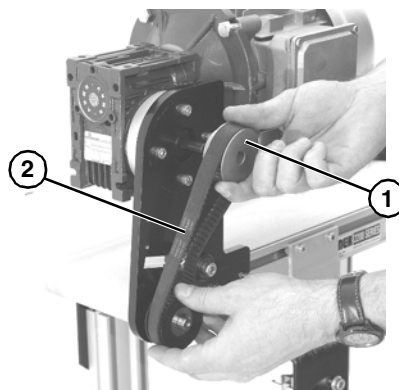

Figure 27
If drive pulley (**Figure 27, item 1**) is replaced, wrap timing belt around drive pulley and complete step 3.
3. Loosen drive pulley set screws on drive pulley (**Figure 27, item 1**). Remove drive pulley and timing belt (**Figure 27, item 2**).